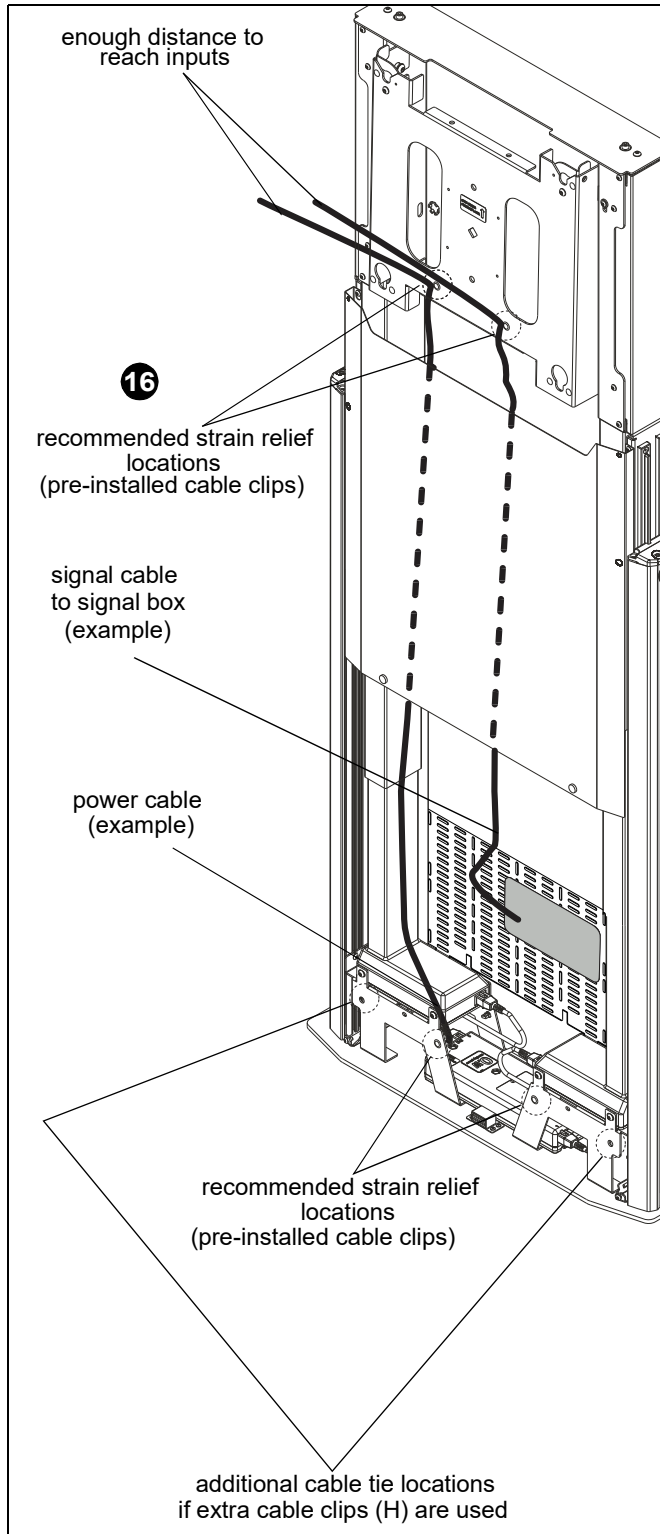

Figure 9
16. Attach display and signal cables to power source. Use cable clips (H) and cable ties (E) to route as necessary. (See Figure 9)